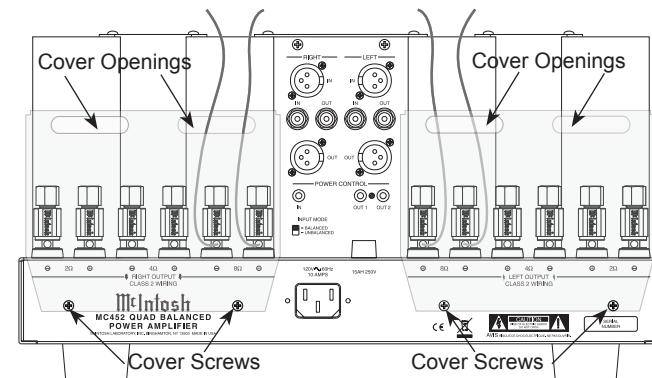

Figure 6 (Outside USA and Canada)
13. Locate the Terminal Connections Covers from the inside of the MC452 shipping carton. Insert the just prepared Loudspeaker hookup cables thru the cover openings, one cover for each channel. Refer to figure 6.
*Note: The illustration in figure 6 is connections for 8Ω (ohms) Loudspeakers.*
15. Attach the Terminal Connections Covers to the MC452 Rear Panel with the previously removed Screws. Refer to figure 6.